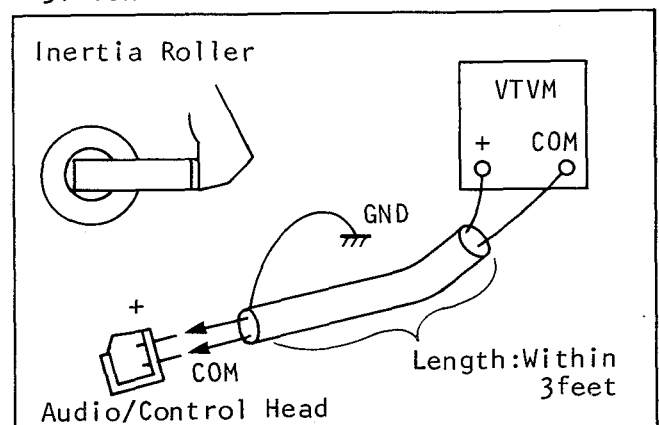

Fig.E29.
2. Connect a VTVM as indicated by Fig. E29 item 3 of A (Bias Current Adjustment).